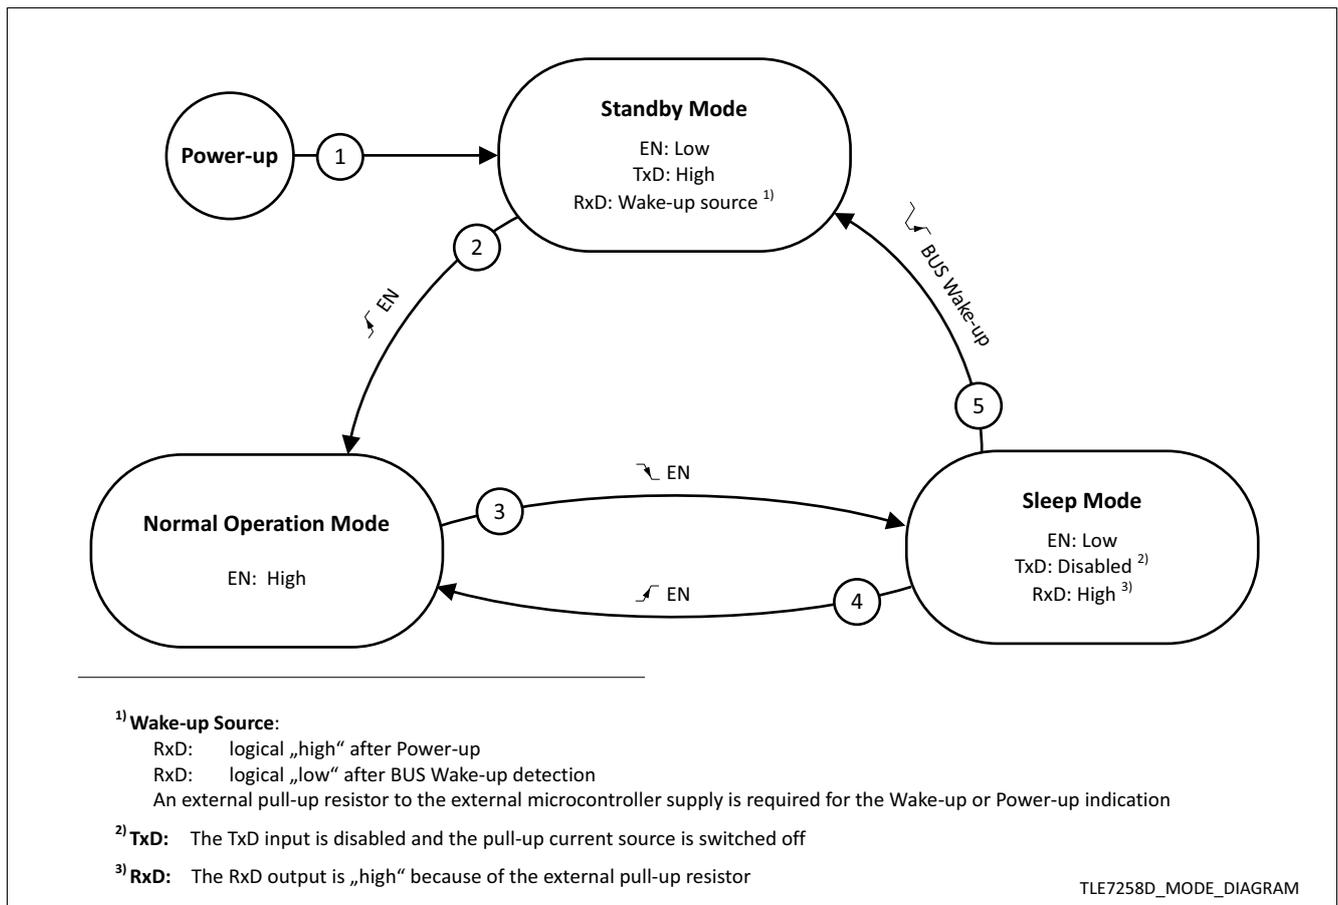
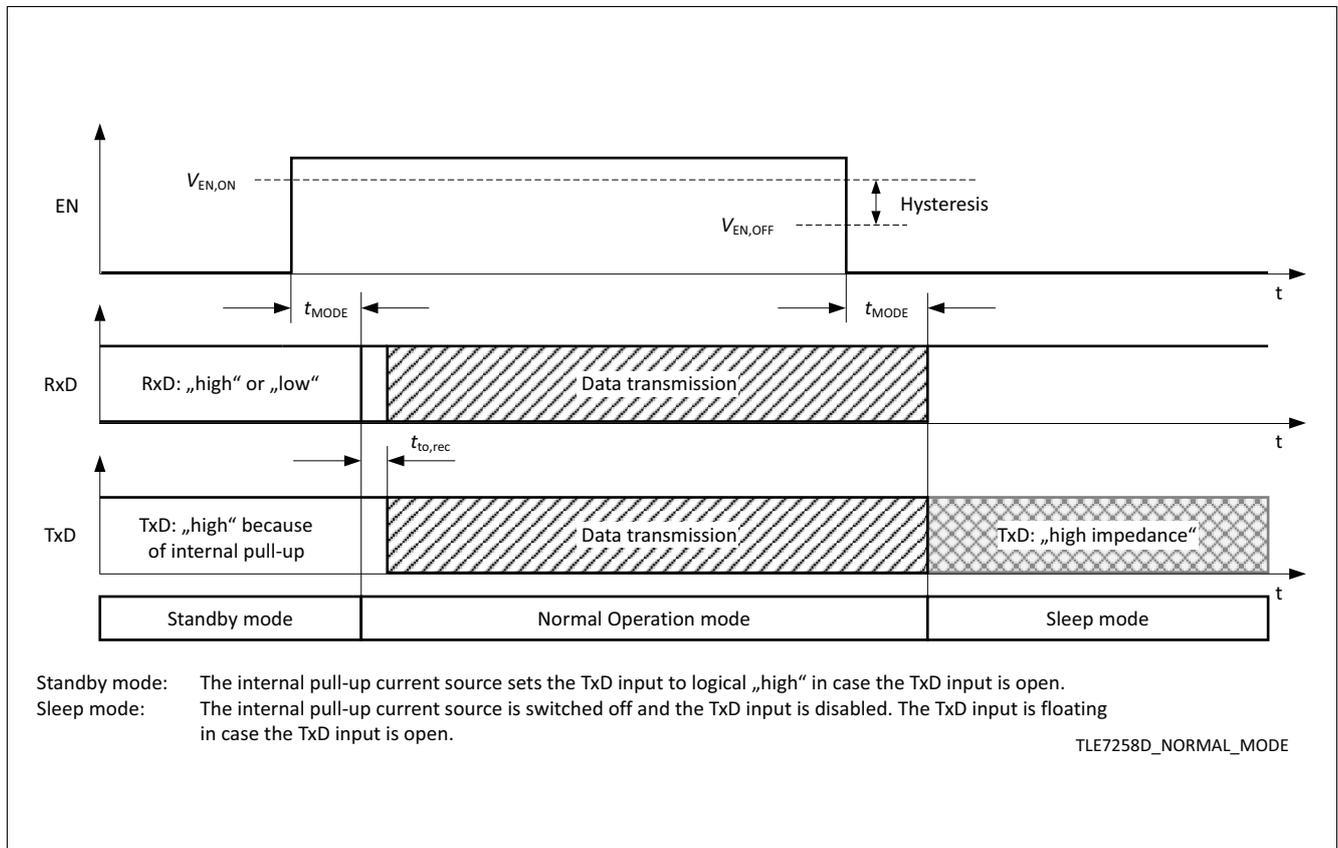
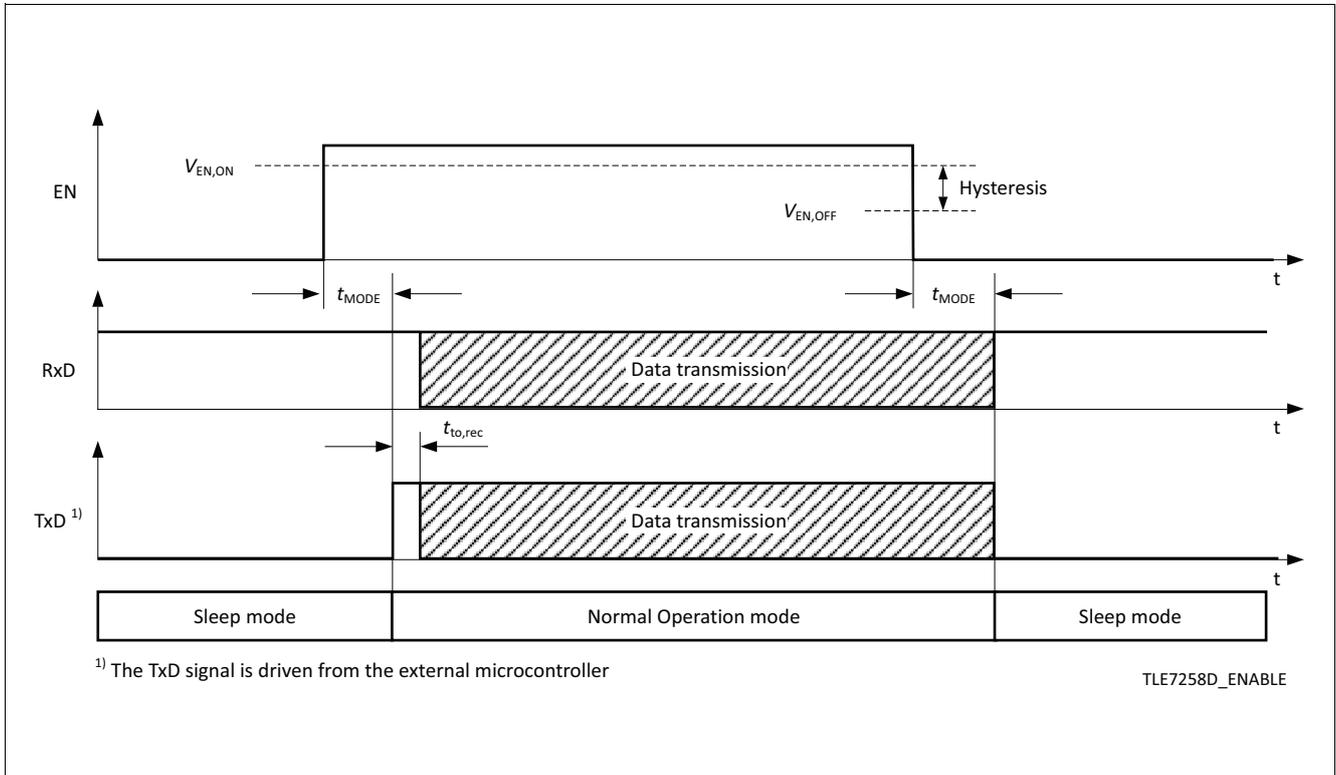

Figure 4 Operation mode state diagram
Figure 5 Entering Normal Operation mode from Standby mode
Figure 9 Entering Normal Operation mode from Sleep mode
The TLE7258D has 3 major operation modes (see Figure 4):
Normal Operation mode can be entered from either Sleep mode (see Figure 9) or from Standby mode (see Figure 5), by setting the EN input to logical "high". From Normal Operation mode the TLE7258D can only enter Sleep mode, it is not possible to enter Standby mode directly (see Figure 4).
After a mode change to Normal Operation the TLE7258D requires a logical “high” signal for the time $t_{to,rec}$ on the TxD input before releasing the data communication (see Figure 5). The transmitter remains deactivated as long as the signal on the TxD input remains logical “low”, preventing possible bus communication disturbance.
- The RxD output indicates either a wake-up event or a power-up event (see Figure 4 and Table 1).
- The EN input is active. A “high” signal on the EN input triggers a transition to Normal Operation mode (see Figure 5).
To switch the TLE7258D from Normal Operation mode to Sleep mode, the EN input has to be set to “low”. Conversely a logical “high” signal on the EN input sets the device directly back to Normal Operation mode (see Figure 4). The TLE7258D can only enter Sleep mode from Normal Operation mode.
The EN input is used for operation mode control of the TLE7258D. By setting the EN input logical “high” for the time t_{MODE} while being Sleep or Standby mode, a transition to Normal Operation mode will be triggered (see Figure 9). The EN input has an integrated pull-down resistor to ensure the device remains in Sleep or Standby mode even if the EN pin is left open. The EN input has an integrated hysteresis.
A signal transition from logical “high” to “low” on the EN input changes the operation mode from Normal Operation mode to Sleep mode (see Figure 5).